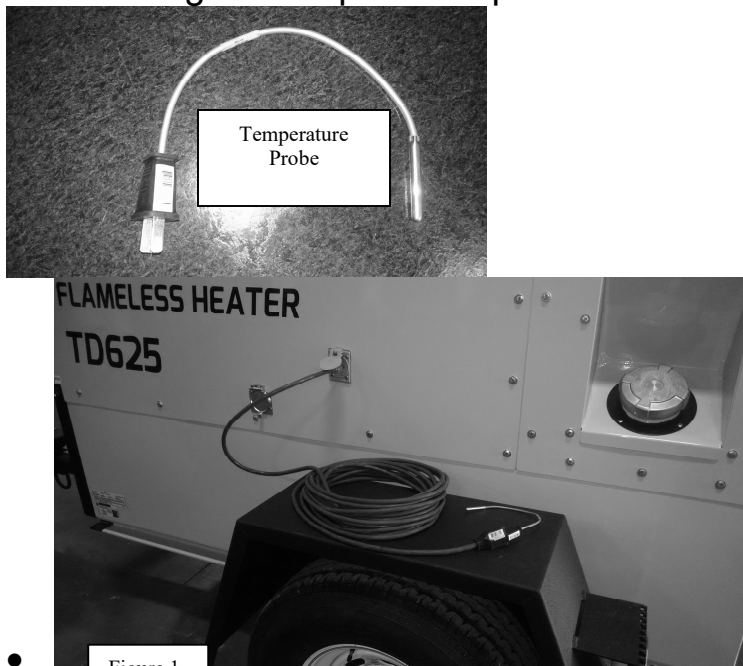

Figure 1
- End user must have the temperature probe (Included with Heater) plugged into the system via an extension cord in order to enable the automatic control. (figure 1)